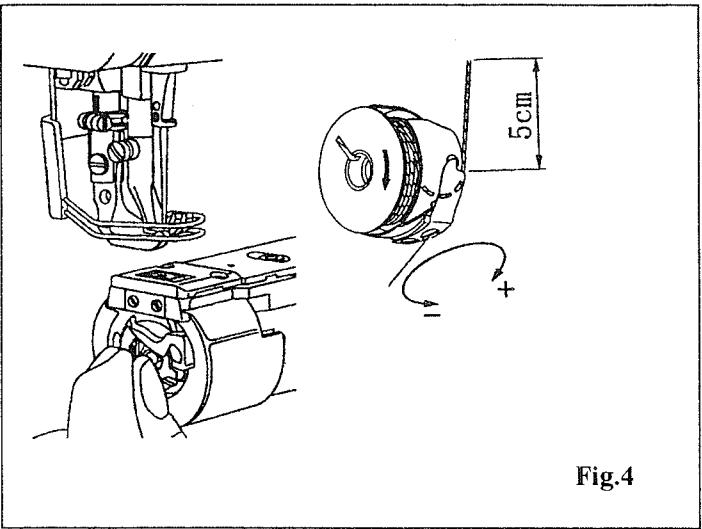

Fig.4
3) TAKING OUT THE BOBBIN CAPSULE (Fig.4)
(1) Take the bobbin capsule out
- ① Lift up handle and take out bobbin capsule. Thread the bobbin capsule.
- ② Thread the bobbin according to Fig 4
- ③ The bobbin should point in the direction of the arrow when taking up the thread.
(2) Putting the bobbin capsule into place